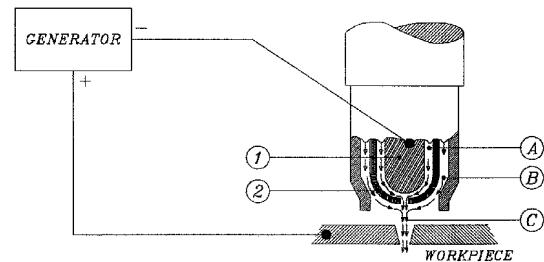

Fig. 4 Functional diagram of a first-generation torch
Initially, for plasma cutting, a torch was used with a front end structure as in Fig.4 and two types of gas: a first one for the formation of the plasma (A) that passes between the electrode (1) and nozzle (2) and is forced to exit in an ionized form through the hole, and a second one (B), that acts to cool the torch and further thins out the dimensions of the plasma arc, which at its centre (C), easily manages to reach the temperature of 10.000°C.